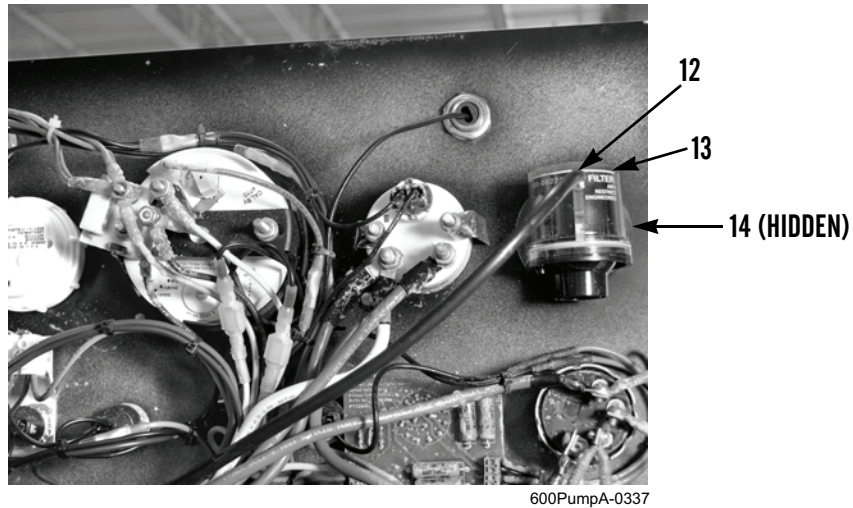

Figure 6. Air Filter Restriction Indicator.
1. Disconnect hose (Figure 6, Item 12) from air filter restriction indicator (Figure 6, Item 13).
2. Connect hose (Figure 6, Item 12) to air filter restriction indicator (Figure 6, Item 13).